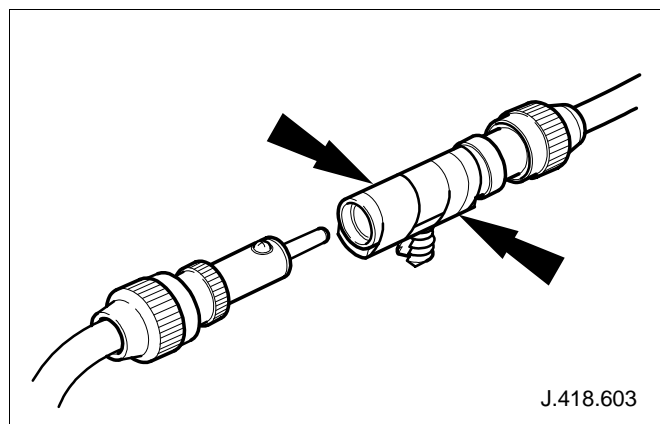

Fig. 27
- 98 Using suitable adhesive tape, secure plastic fir tree clip to the socket in two places. (See Fig. 27)